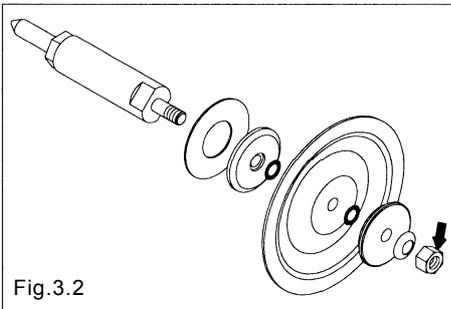

Fig.3.2
- Pull out the diaphragm, center disk and center rod from the main body. [Fig.3.2]
- Remove the nut, and remove the center disk, diaphragm and O-ring (_T type, 10_C, 10_N) from the center rod. [Fig.3.2]